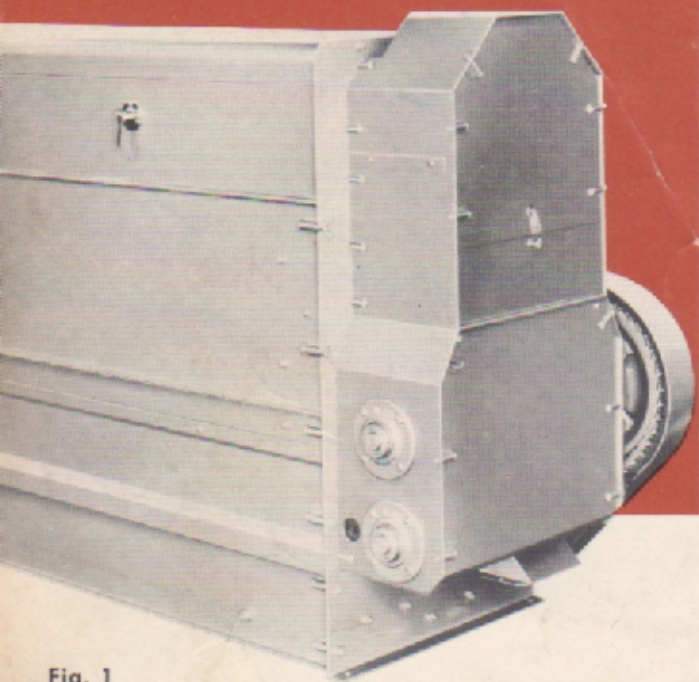

Fig. 1
1. Removing front plate and door. Note wing nut fasteners on the plate, Fig. 1.